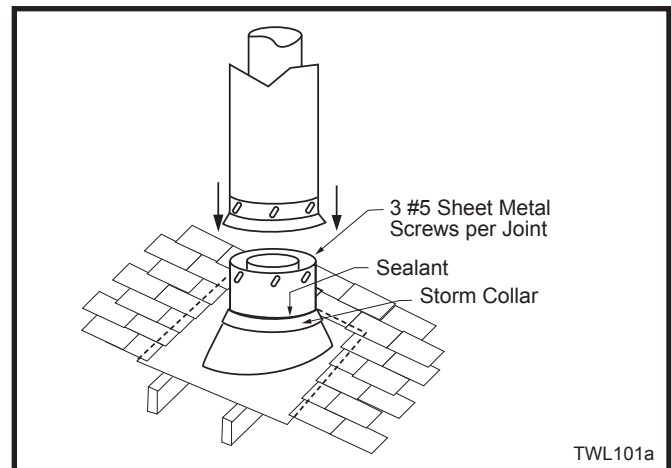

Fig. 36 Roof flashing.
7. Install roof support (Fig. 36 & 37) and roof flashing making sure upper flange is below the shingles. (Fig. 36)
8. Install appropriate pipe sections until the venting is above the flashing. (Fig. 36)
The enlarged ends of the vent section always face downward. (Fig. 36)